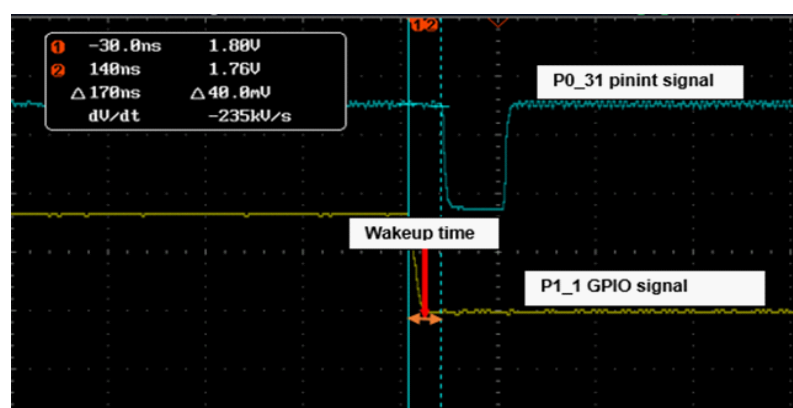
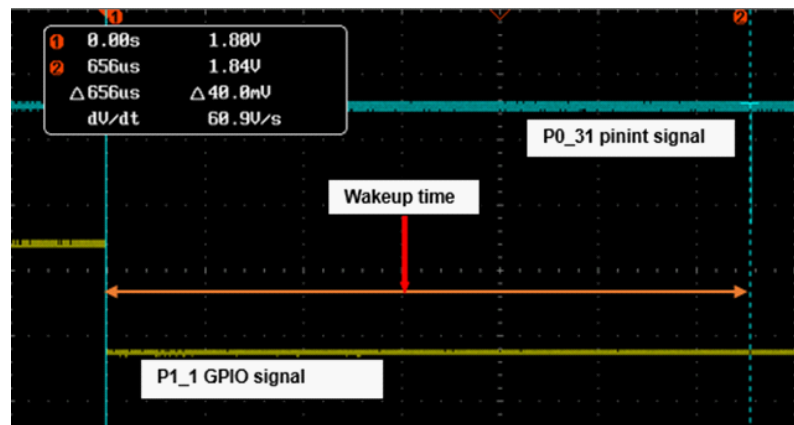

Figure 5. Wake-up time measurements for sleep mode
Figure 6. Wake-up time measurements for deep sleep mode
6. For wake-up time from sleep and deep-sleep modes, measure time passed on the oscilloscope between the P1\_1 wake-up pin going low to P0\_31 pin going low as shown in Figure 5 and Figure 6.